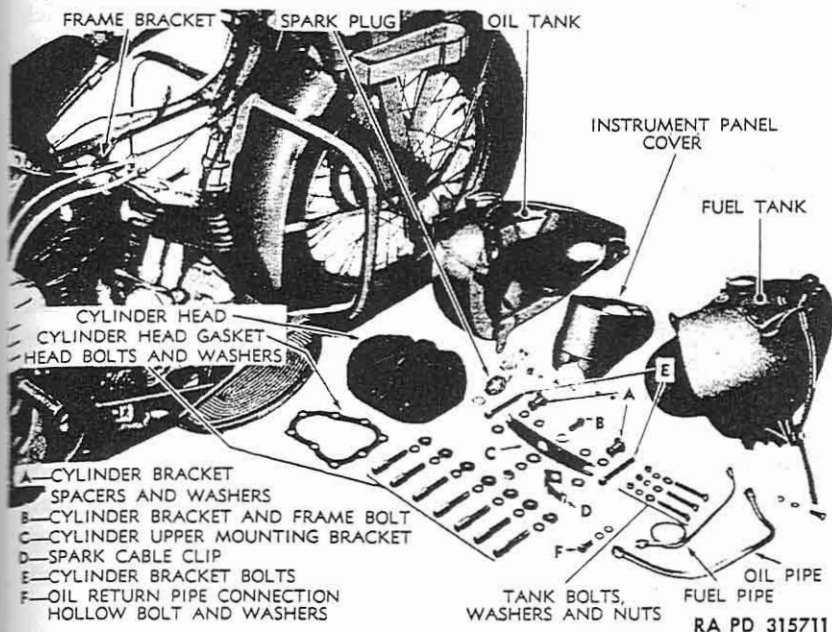

Figure 15—Disassembly for Head Gasket Replacement
41. REPLACEMENT OF HEAD GASKET (fig. 15).
a. **Removal.** Refer to figure 15, illustrating necessary parts and units to be removed to perform this operation.
- (1) Remove instrument panel cover (par. 119).
- (2) Remove gasoline tank and oil tank (par. 107).
- (3) Remove cylinder head bracket to frame lug bolt; this will free clamp which secures front spark plug cable. Pay particular attention to shim washers placed between cylinder head bracket and frame lug, as these washers must be replaced when installing cylinder head.
- (4) Remove spark plug, or plugs.
(5) Remove cylinder head bolts, using head bolt wrench 41-W-1525. NOTE: On some 42 WLA models, plain washers (0.095-inch thick), in addition to regular (heavy) cylinder head bolt washers, were used to prevent cylinder head bolts from bottoming.
(6) Perform carbon removal (head only). Refer to paragraph 42.
b. Installing Gasket and Head (fig. 15).
(1) Clean top of cylinder. Apply a light application of grease or oil to both sides of gasket before locating on cylinder head. Place head on cylinder.
(2) Install head bolts, using heavy washers (also 0.095-inch thick plain washers, if any were removed). If in doubt as to use of 0.095-inch thick washers in addition to regular washers, measure depth of bolt holes in cylinder head. Head having hole depth of $3\frac{1}{32}$ inch must use the 0.095-inch thick washers in addition to regular washers. Head having bolt hole depth of $1\frac{1}{16}$ inch does not require the 0.095-inch thick washers.
(3) Install cylinder frame bracket with the two long bolts, special (spool-shaped) spacers, and flat washers. The spacers go between cylinder heads and frame bracket. A flat washer goes under the head of each long cylinder bolt, above the bracket; some engines may have flat washers between the spacers and the bracket.
(4) Tighten head bolts evenly to ensure a tight cylinder head joint. Use head bolt wrench 41-W-1525, first turning down bolts just snug, then tightening each bolt $\frac{1}{8}$ to $\frac{1}{4}$ turn at a time, until all are securely tightened. If torque wrench is available, tighten head bolts to 60 foot-pounds minimum, 65 foot-pounds maximum tension when engine is cold.